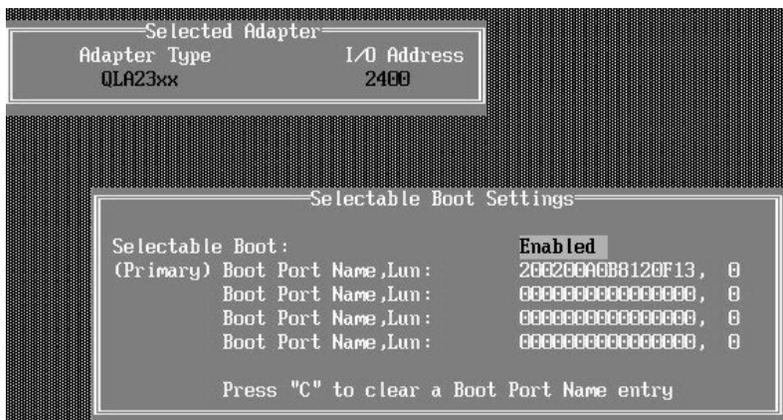

Figure 10-30 Map boot device
- e. Under the Selectable Boot Settings option, set the boot device to the controller's worldwide port name, as shown in Figure 10-30.